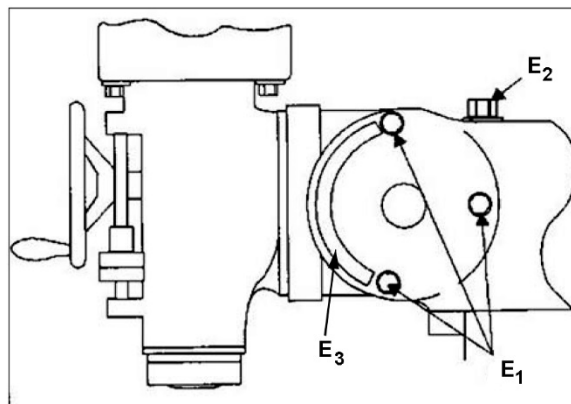

Figure 10-6: Mill head movement – tilting
- Loosen three ram adapter locking bolts (E₁, Figure 10-6). There is no need to loosen the bolts more than one-half (1/2) turn to allow tilting.
- When indicator reads zero, tighten locking bolts (E₁, Figure 10-6).